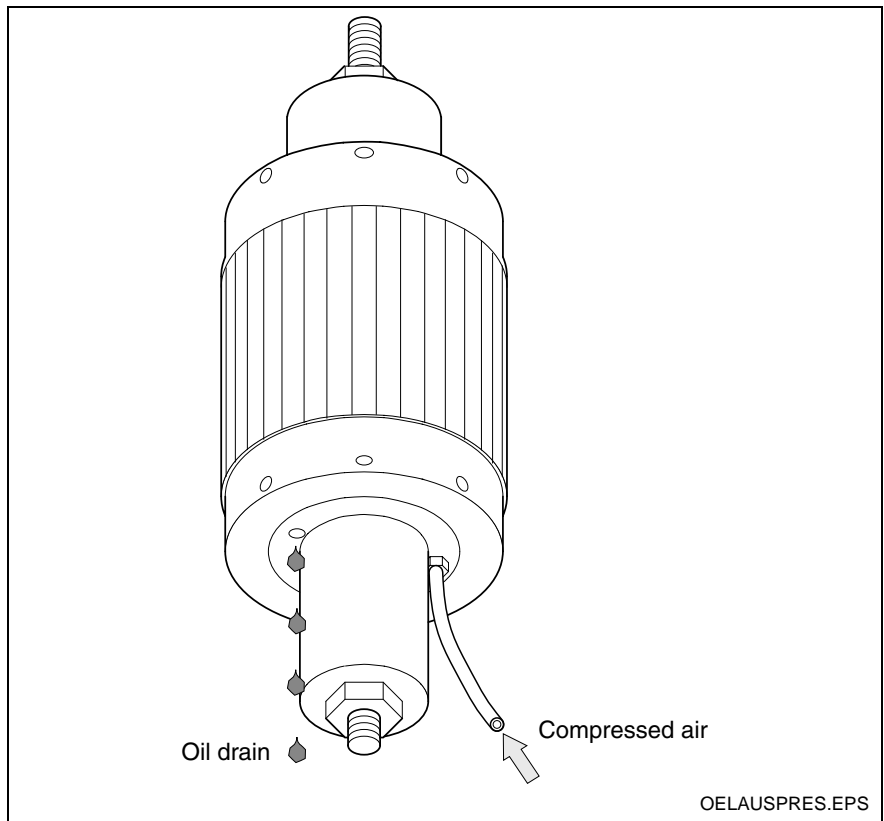

Fig. 11-14: Using compressed air to force oil out
8. Bring the spindle with the clamping device into a vertical position and, using compressed air, force the oil out of the multiple die press group (see Fig.11-14).